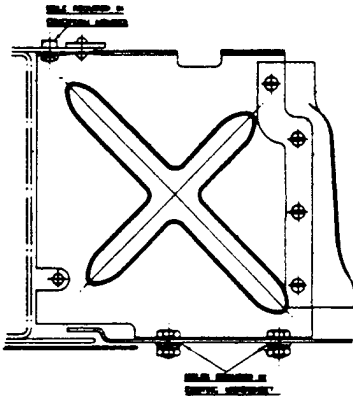

FIG. 2. BAFFLE PLATE.
8. Fit the rubber protection piece to the baffle plate as shown in Fig.2. Both the rubber and the retaining strip should be fitted on the ENGINE side of the plate, with the nuts for the securing screws on the obverse face.